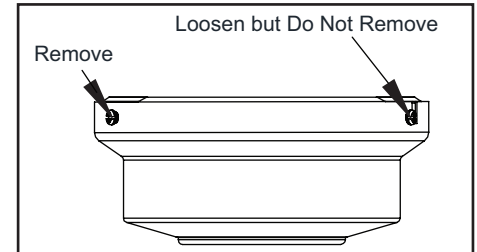

Figure 12
2. Remove the mounting plate from the canopy by loosening the four screws on the top of the canopy. Remove the two non-slotted screws and loosen the slotted screws. This will enable you to remove the mounting plate. (Figure 12)